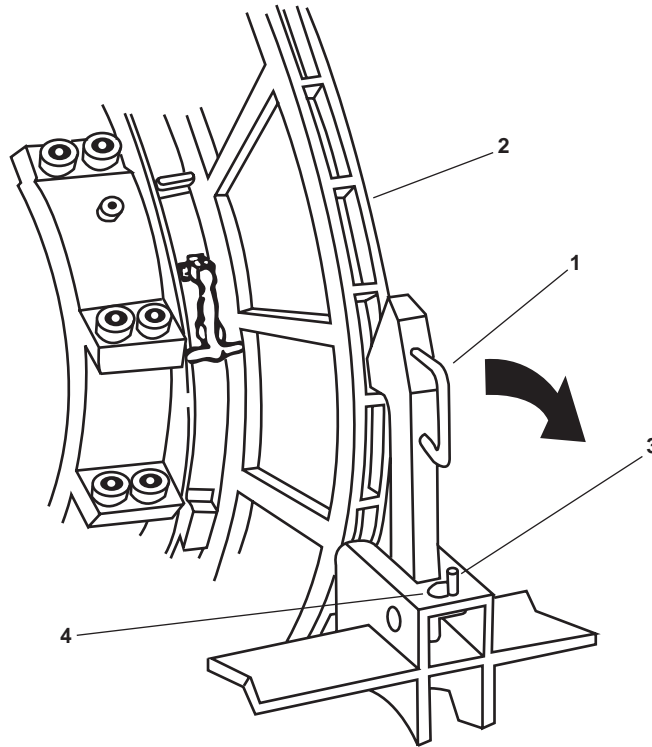

Figure 8. Towing Machine Mechanical Dog
5. Disengage the mechanical dog (figure 8, item 1) from the towing machine drum (figure 8, item 2) and insert the quick release pin (figure 8, item 3) in the retaining hole (figure 8, item 4).